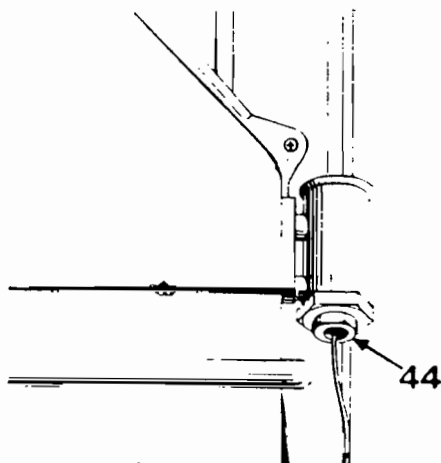

FIG. 18
(b) To prevent possible damage to the heating unit release the union nut (44) Fig. 18. with a suitable spanner whilst supporting the bulb housing with a second spanner.
When re-fitting the thermostat, ensure that the 'O' ring is in position at the heat exchanger connection (44) Fig. 18. and that the spacer is correctly located between the thermostat flange and the retaining plate.